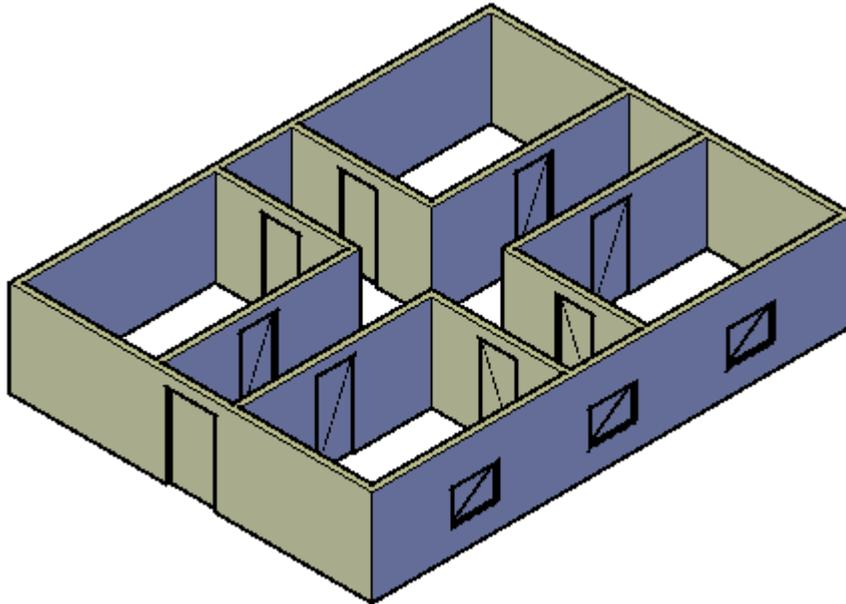
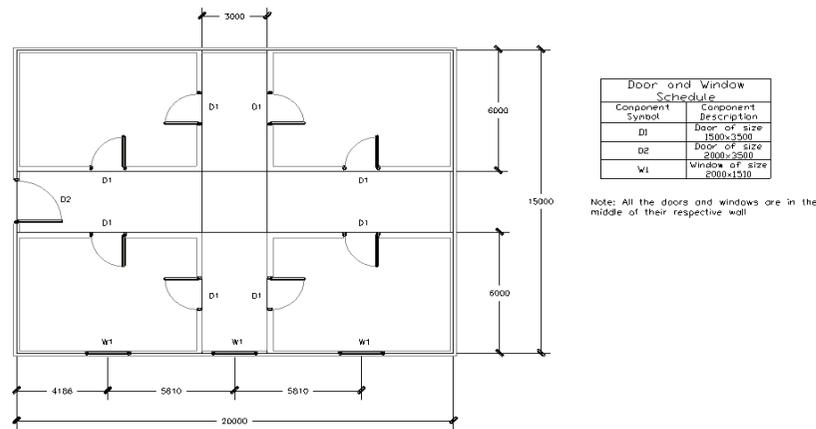
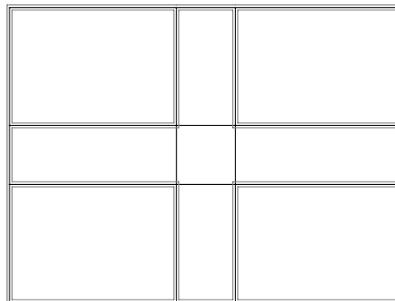

Figure 3-41 Model of a building
Figure 3-42 Plan view of a building
Figure 3-43 Walls created
In this tutorial, you will create a model of a building, as shown in Figure 3-41. The plan of the building is given in Figure 3-42. **(Expected time: 30 min)**
Examine the model to determine the number of features in it. The model consists of three features, refer to Figure 3-41.
- Create walls by using the reference of line diagram, refer to Figures 3-42 and 3-43.
- Create doors according to the plan, refer to Figures 3-42 and 3-44.
3. Click to specify the start point of the wall and then create the walls, as shown in Figure 3-43. For dimensions, refer to Figure 3-42.
Now, you will create doors. For dimensions, refer to Figure 3-42.
3. Click at the required locations to place the door D1, refer to Figure 3-42.
4. Now, specify width as **2000** in the **Width** field available in the **Dimensions** rollout of the **PROPERTIES** palette and create the main gate. For positioning the gates, refer to Figure 3-42.
Now, you will create windows with the specifications given in Figure 3-42.
3. Click at the required locations to create the windows, refer to Figure 3-42.